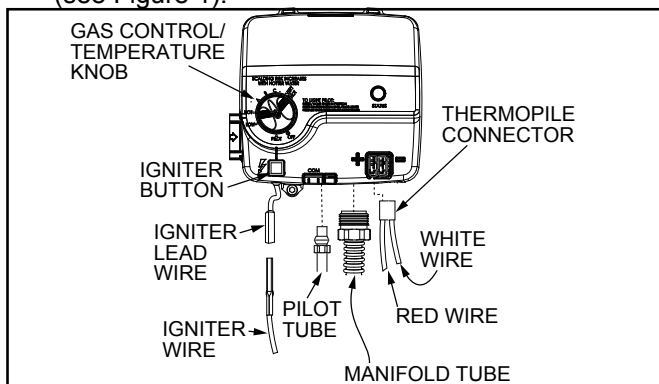

Figure 33
1. Turn the gas control/temperature knob to the "OFF" position (see Figure 31 and Figure 33).
4. Disconnect the igniter wire from the igniter lead wire. Use needle nose pliers to disconnect the thermopile connector. Disconnect the pilot tube (7/16" wrench) and manifold tube (3/4" wrench) at the gas control valve/thermostat (see Figure 33).
4. Disconnect the following from the gas control valve/thermostat: pilot tube (7/16" wrench), igniter wire (from the igniter lead wire), and manifold tube (3/4" wrench) (see Figure 33).
5. Use needle nose pliers to disconnect the thermopile connector from the gas control valve/thermostat (see Figure 33).
6. Reconnect the manifold tube (3/4" wrench) and pilot tube (7/16" wrench) to the gas control valve/thermostat (see Figure 33). Do not cross-thread or apply any thread sealant to the fittings.
7. Connect thermopile connector to the gas control valve/thermostat (see Figure 33).
8. Reconnect the igniter wire (see Figure 33).